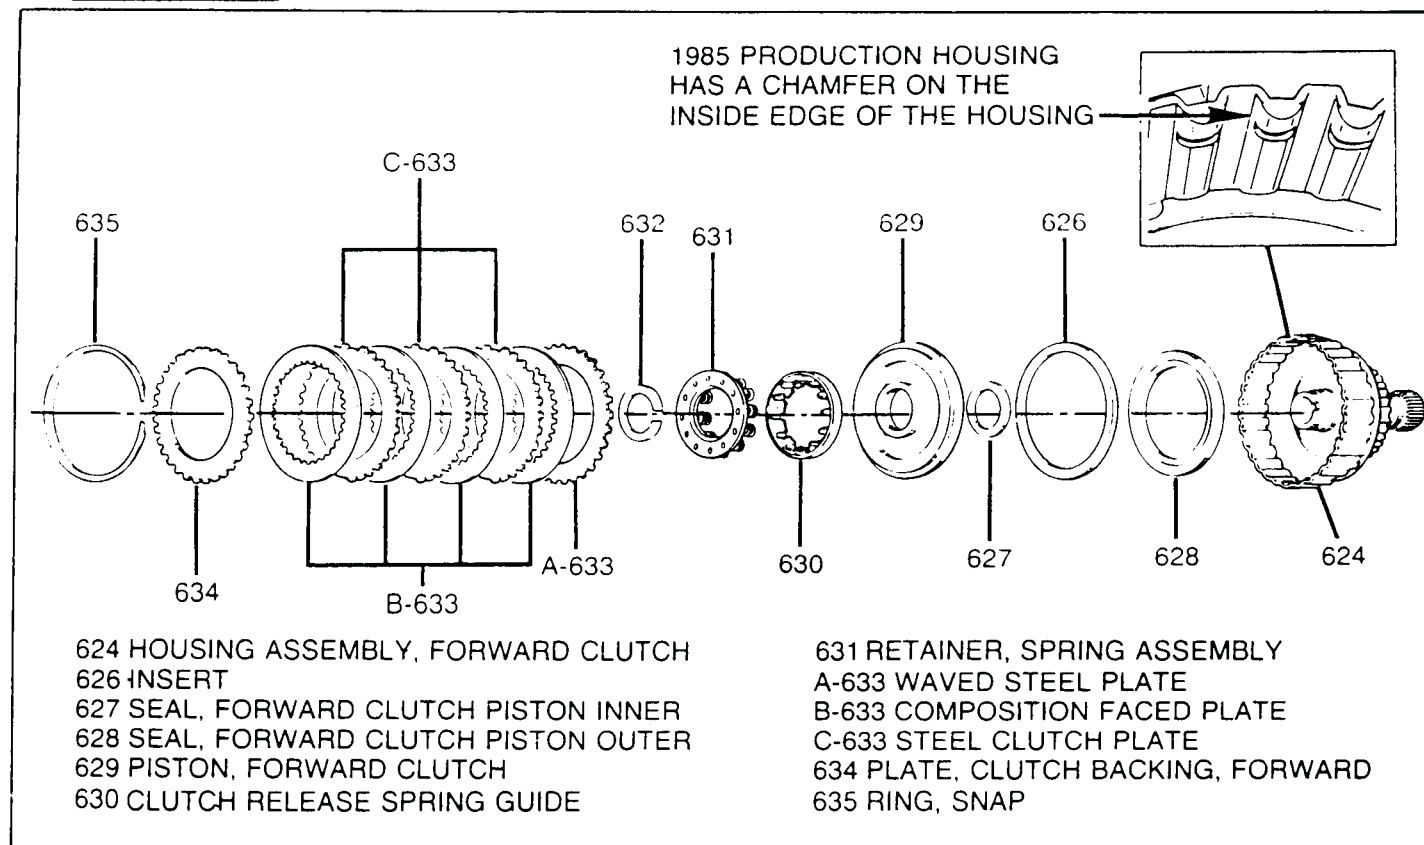

FIGURE 1
**NOTICE:** Do not use any component parts from the 1985 production forward clutch assembly or direct clutch assembly to service prior model year clutch assemblies. This includes the 1985 production composition clutch plates for both the forward and direct clutch. Refer to Figures 1 thru 6 for component identification and refer to the appropriate service parts book.
REFER TO FIGURES 1 THRU 7 FOR WIRING DIAGRAMS